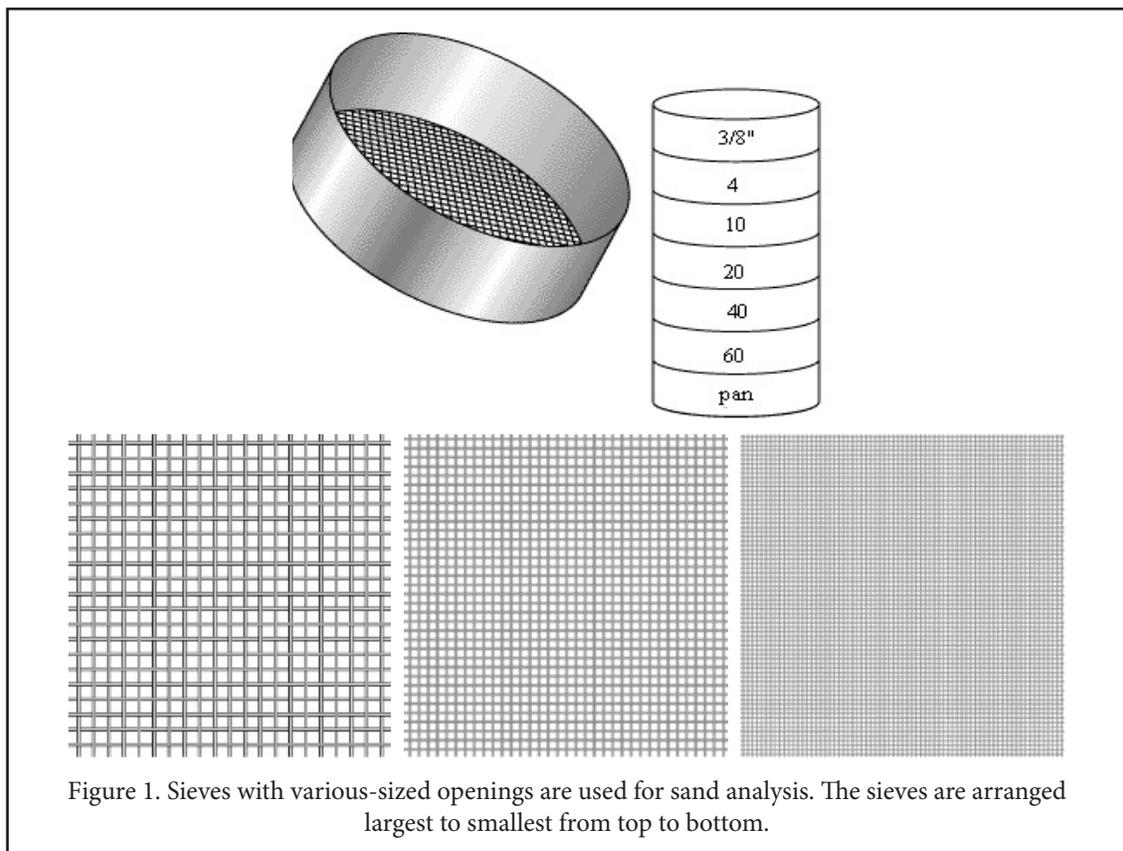

Figure 1. Sieves with various-sized openings are used for sand analysis. The sieves are arranged largest to smallest from top to bottom.
- Arrange a set of sieves from largest opening to smallest with the pan below the bottom sieve (figure 1). Place the sample on the top sieve. Place lid over top sieve.